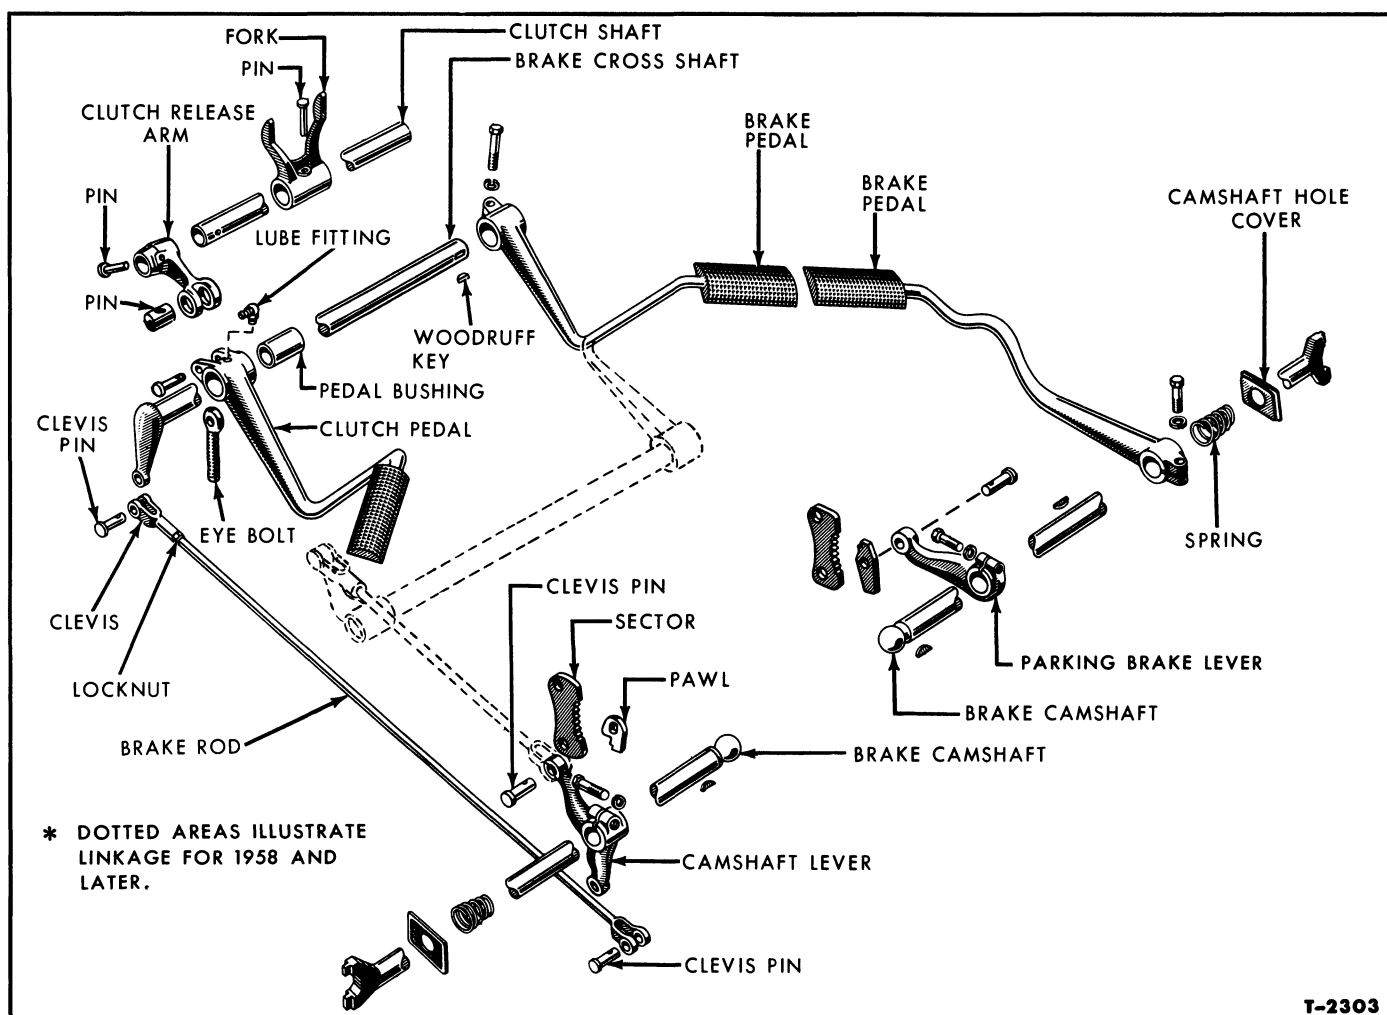

Figure 4—Clutch and Brake Pedals and Linkage—Typical
The clutch and brake pedals, plus the necessary linkage, are shown in Figure 4.
It will be necessary to remove the brake camshaft to replace the right brake pedal, either parking brake lever or either camshaft lever, Figure 4.
1. Transfer all serviceable parts from the old camshaft onto the new one as shown in Figure 4. After the Woodruff key and lever is installed, torque the bolt to 60-80 ft. lbs.